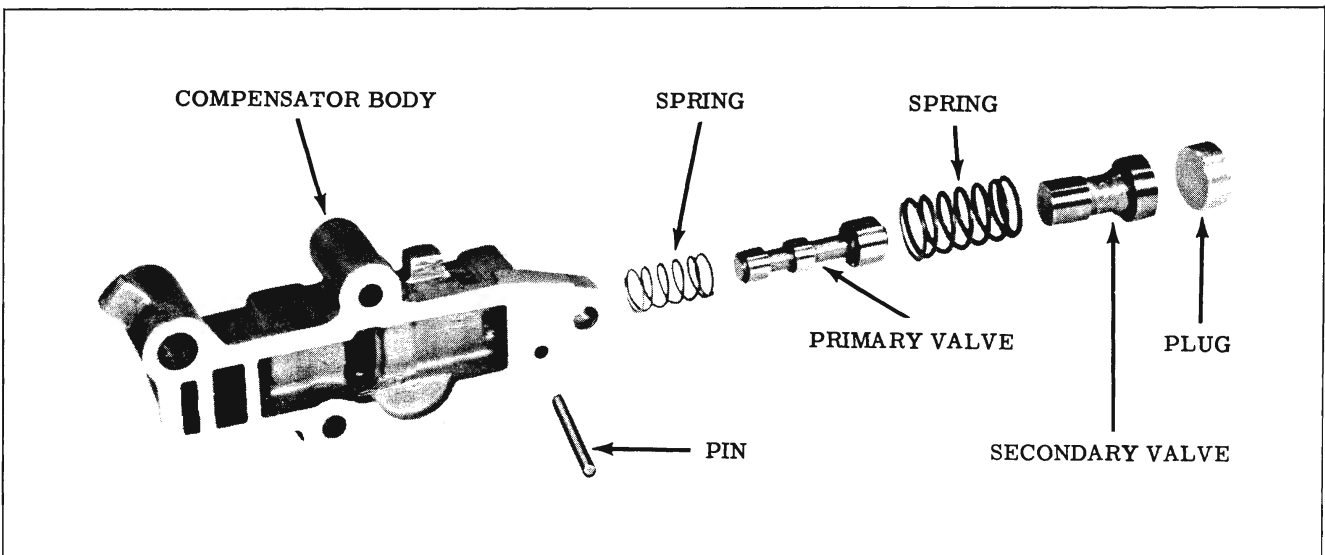

Fig. 3-68 Two Stage Compensator Valve ("OA" & "OB")
**DISASSEMBLY OF TWO STAGE COMPENSATOR VALVE BODY (Fig. 3-68)**
### ASSEMBLY OF TWO STAGE COMPENSATOR VALVE BODY (Fig. 3-68)